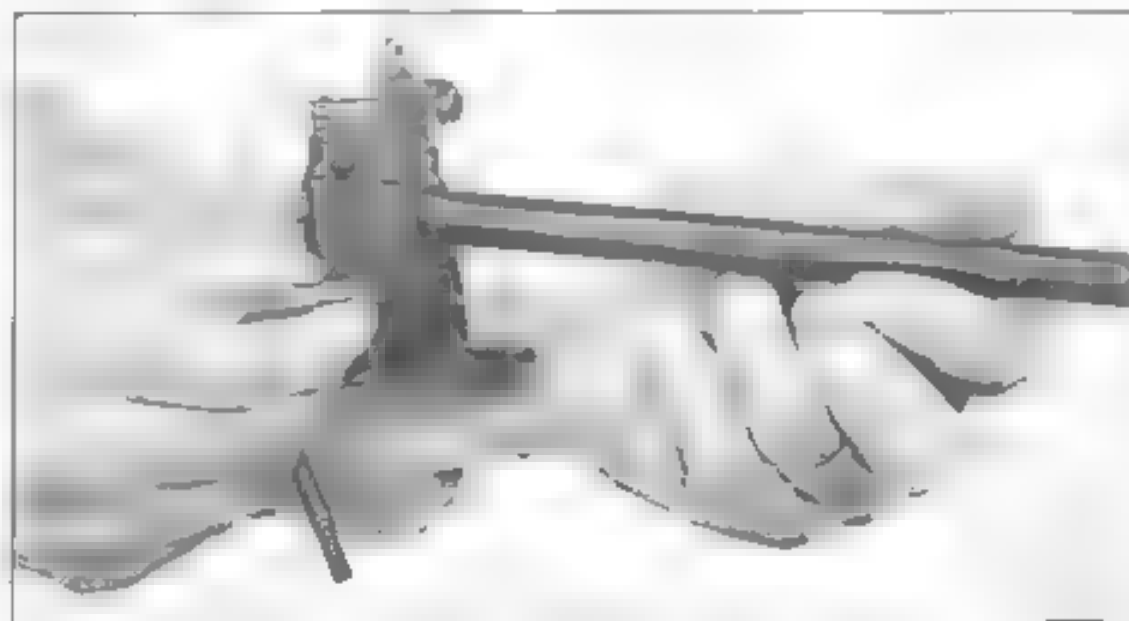

Fig. 136
- Compress the spring and insert a pin drift in the housing for the retaining pin (fig. 136).